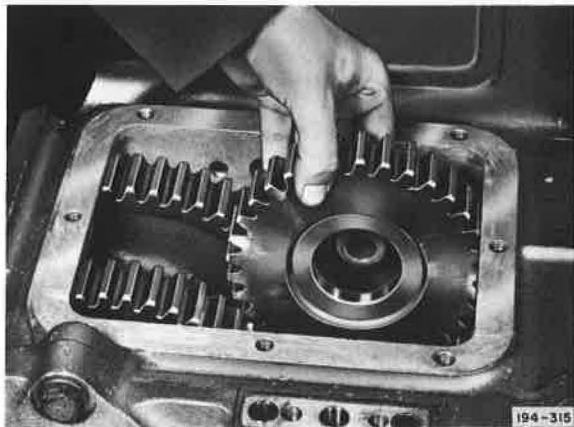

Figure 5-77. Removing Fourth Speed Gear
10. Remove fourth speed gear and thrust washer through transmission case top cover opening. See Figure 5-77.